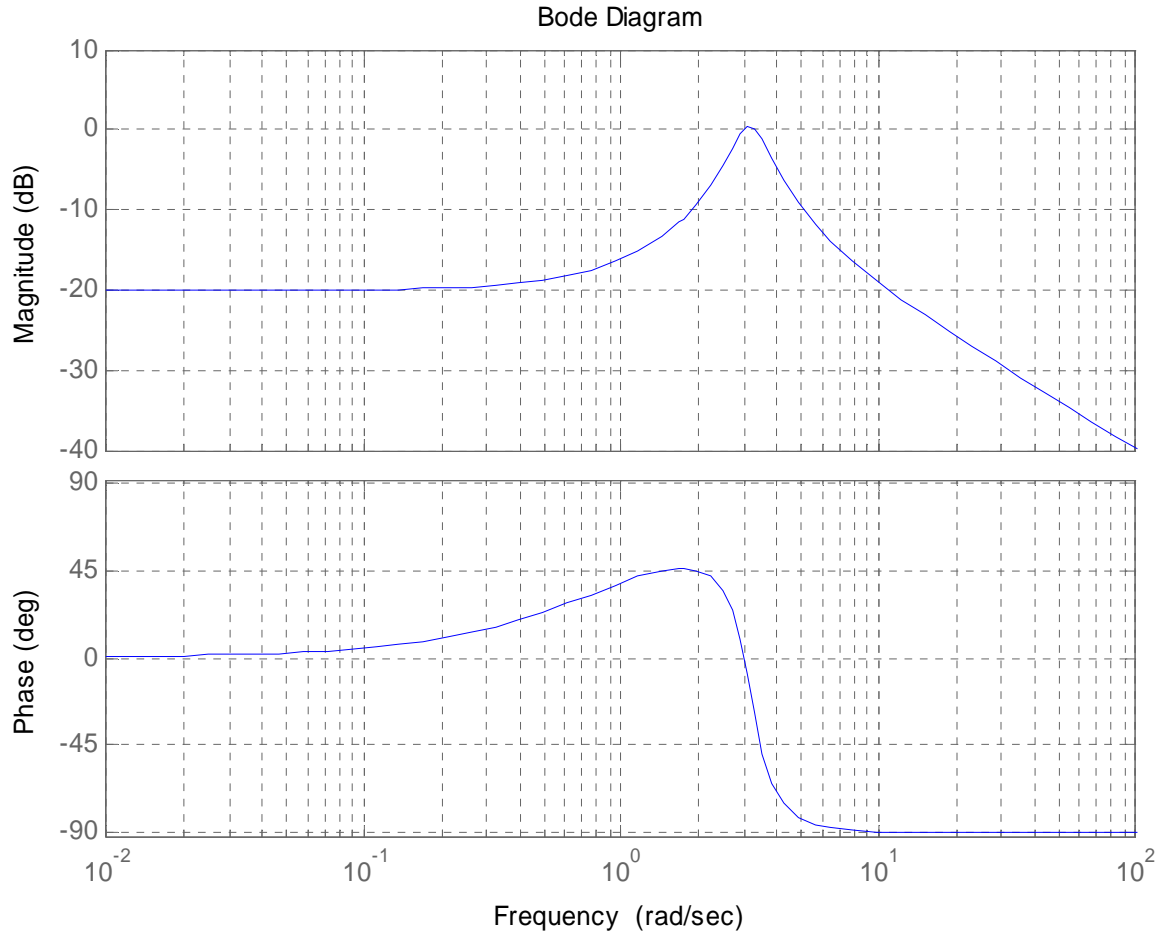

Figure 5: Bode plot of an unknown system.
5) In addition to determining $|H(j\omega)|$ and $\angle H(j\omega)$ analytically, we can read these values from a Bode plot of the transfer function. Of course the magnitude portion of a Bode plot is in dB, and we need the actual amplitude $|H(j\omega)|$. For the system with Bode plot given in Figure 5, determine the steady state output of this system if the input is $u(t) = 5 \sin(3t + 20^\circ)$ and $u(t) = 5 \sin(2t + 20^\circ)$.